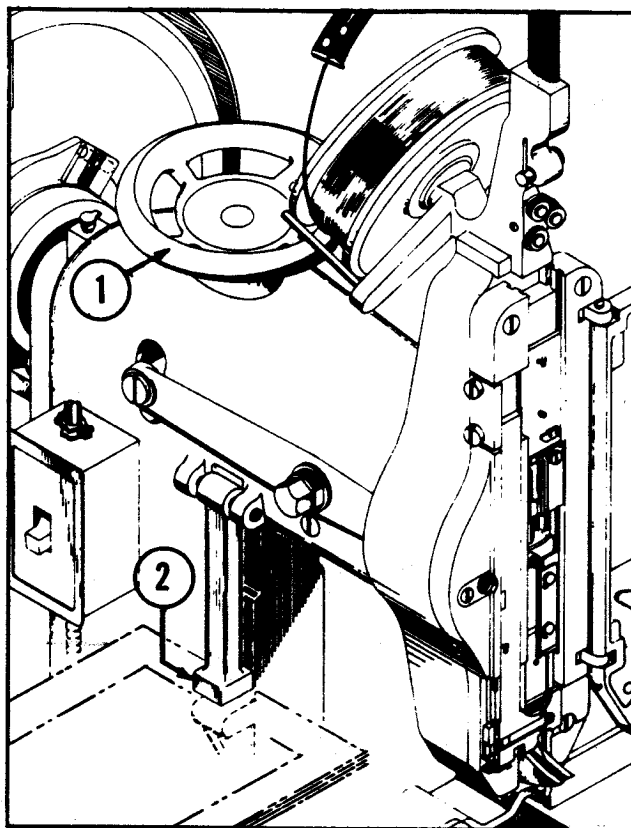

Figure 3—Work Thickness Adjustment
2. HOW TO ADJUST STITCHER FOR THICKNESS OF WORK (See Fig. 3.)
a. Turn the thickness adjustment handwheel (1) counter-clockwise (to left) until column gauge (2) has raised sufficiently to allow sample of work to be inserted between the gauge and gauge shelf, as shown in Fig. 3.
b. With work held in this position, turn handwheel (1) clockwise (to right) until work is firmly clamped between gauge (2) and gauge shelf; then, turn handwheel to left, raising gauge, just far enough to permit work to be withdrawn from between the gauge and gauge shelf.